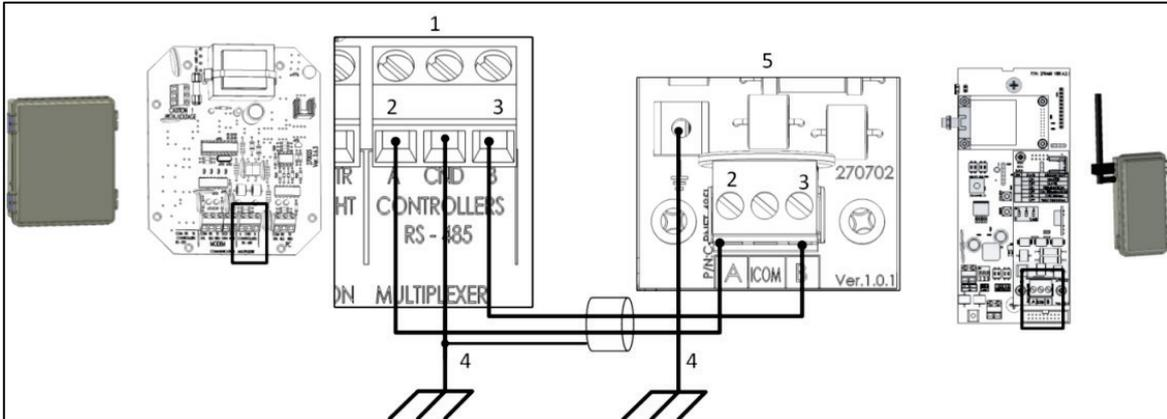

Figure 25: Wiring an Communication Box-485 to a RLINK ONE
- Figure 25: Wiring an Communication Box-485 to a RLINK ONE
Figure 25 key